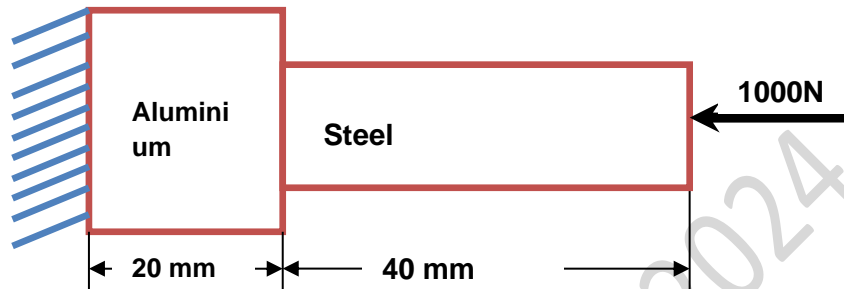

Fig. 3b
- b) Determine displacement field, support reactions and stresses for the stepped bar shown in Fig. 3b. $A_{AL} = 40 \text{ mm}^2$, $E_{AL} = 70 \times 10^3 \text{ N/mm}^2$, $A_{ST} = 20 \text{ mm}^2$, $E_{ST} = 200 \times 10^3 \text{ N/mm}^2$. 14